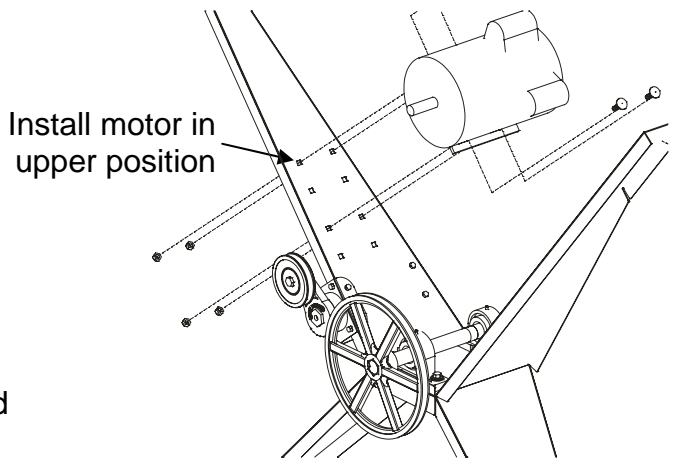

Figure 3 – Re-Install Motor
5. Refer to **Figure 3**. Re-Install the motor in the upper mounting position using the four cap screws and lock nuts removed in **Step 3**.